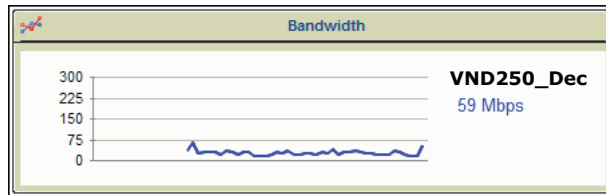

Figure 58. Bandwidth Monitor
Select the real-time bandwidth monitor (see figure 57, ①) to open a new dialog box that monitors the bandwidth (measured in Mbps) used by the selected device or devices (see figure 58).